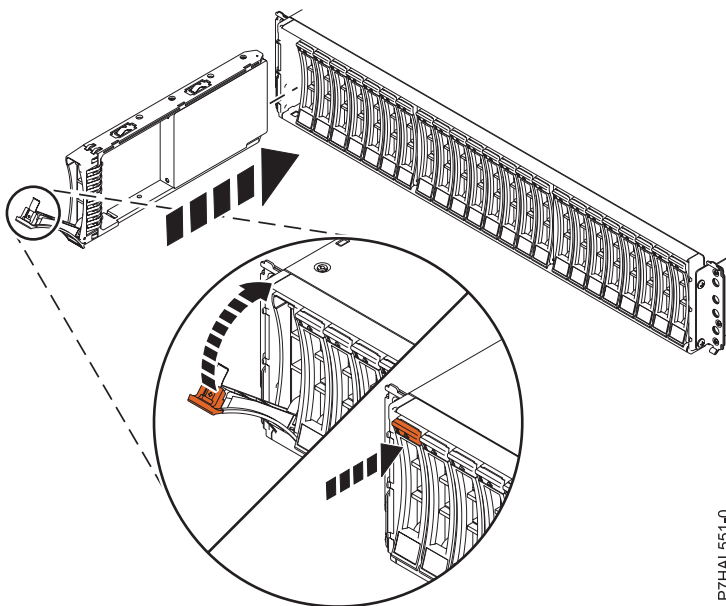

Figure 12. Installing the disk drive in the 58/87 disk drive enclosure
1. With the handle in the unlocked position, as shown in Figure 12, support the bottom of the drive as you align it with the guide rails in the expansion unit.